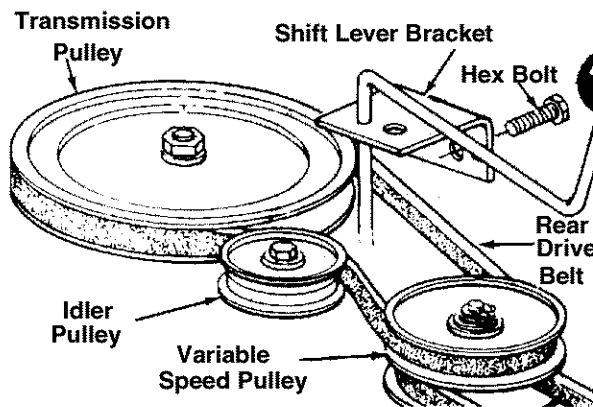

Figure 26
- Push the idler pulley toward the right side of the unit. Lift the belt over the idler pulley. See Figure 26.
- Remove the two bolts which hold the shift lever bracket to the frame on the left side of the unit. Swing the bracket toward the right so the belt can be removed from the transmission pulley. See Figure 26.